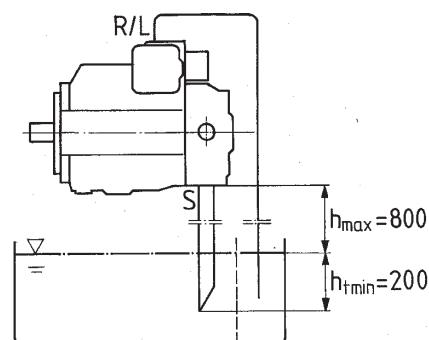

Fig. 4
b) When the minimum fluid level lies under the pump upper edge then: drain port and possibly port »S« has to be piped, see fig. 4. Conditions are as per point 1.2.
a) For installation above a tank see fig. 4. Conditions are as per point 1.2.